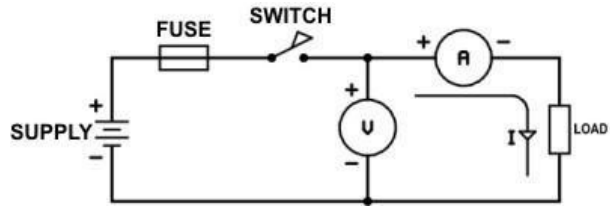

Figure 24: Basic electric circuit with switch.
In Figure 24, current passes through the circuit when the S switch is closed. Electric current is symbolized by I . Its unit is “Amper” and symbolized by (A). Upper and lower multiples of Amper, and the mathematical relation between them are shown in Figure 25.